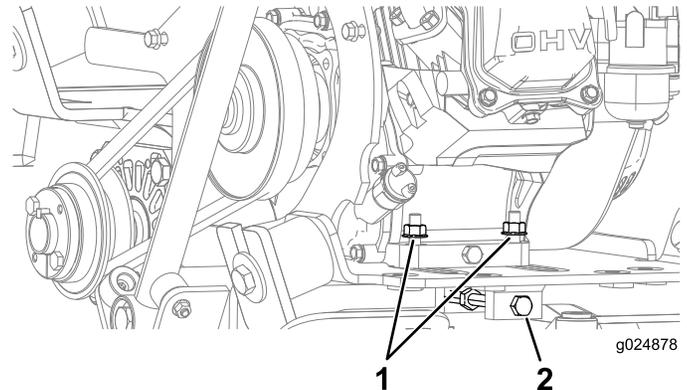

Figure 28
3. Loosen the 2 flange nuts (8 mm) that secure the back of the engine (Figure 28).
4. Loosen the jam nut, and rotate the belt-tensioning bolt clockwise to tension the belt, or rotate the belt-tensioning bolt counterclockwise to loosen the tension on the belt (Figure 28).
8. Tighten the 2 flange nuts (8 mm) that secure the back of the engine to 23 to 29 N-m (17 to 21 ft-lb) as shown in Figure 28.